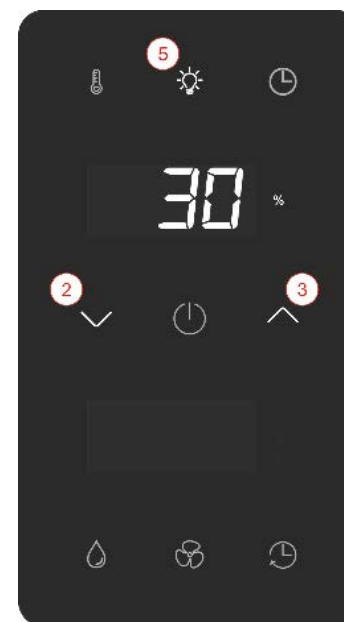

Fig. 11 Switching the light on/off and dimming
5. Use the "Up" (Fig. 11/Item 3) or "Down" (Fig. 11/Item 2) buttons to change the settings.
1. Press the "Light button" (Fig. 11/Item 5)
3. Use the "Up" (Fig. 11/Item 3) or "Down" (Fig. 11/Item 2) buttons to change the brightness.
4. Press the "Light button" (Fig. 11/Item 5) again to save the selected value.